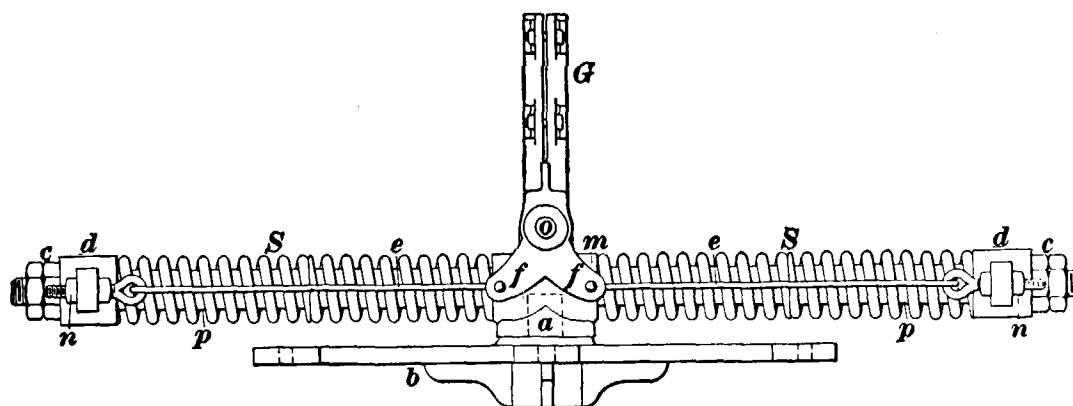

FIG. 8.
7. The Nuttall Trolley Stand.—Figs. 8 and 9 show one form of Nuttall stand. *G* is the socket proper and *f, f* two wings forming part of the socket casting provided to